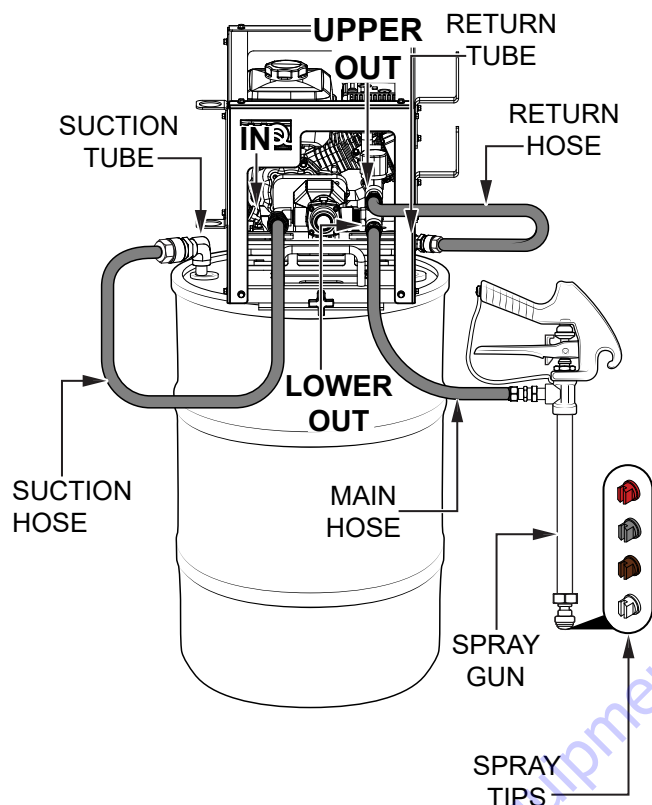

Figure 47. Barrel Mount Spray System Assembly
7. Insert the (**larger**) suction tube and (**smaller**) return tube into the top of the drum (Figure 47). If the bung holes are different sizes, be sure to place the suction tube into the **larger** hole, and the return tube into the **smaller** hole.
8. Connect one end of the suction hose to the **IN** port on the pump (Figure 47).
9. Connect the other end of the suction hose to the suction tube (Figure 47).
10. Connect one end of the return hose to the upper **OUT** port on the pump (Figure 47).
11. Connect the other end of the return hose to the return tube (Figure 47).
12. Connect the male fitting on one end of the main hose to the lower **OUT** port on the pump (Figure 47).
13. Connect the female fitting on the other end of the main hose to the male fitting on the spray gun (Figure 47).
14. Choose an appropriate spray tip for the desired application, and install it onto the end of the spray gun (Figure 47). See Table 8 for spray tip selection information.